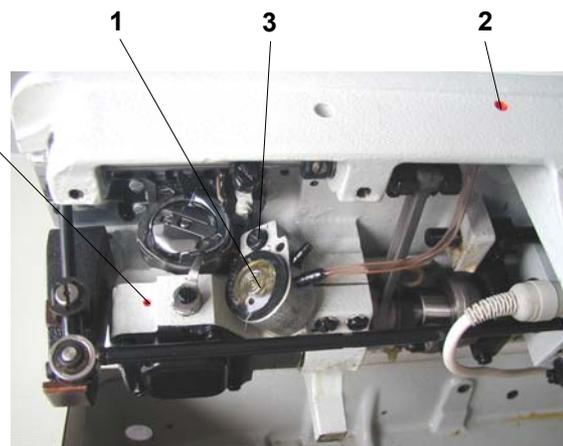

Fig. 13
From time to time, oil is to be dropped into the hole of the hook gearbox (Fig. 13). The quantity of the oil fed for lubricating the hook is regulated by turning a bit a regulation pin (3) using a screwdriver within the extent of 0 - MAX, that is to the left, in counterclockwise direction. The pin is placed on the front side of the oil vessel under the bedplate. When setting the indicator of the regulation pin on "0", the minimum oil feeding to the hook is ensured, so that its seizure is avoided. After having put the machine into operation, check and refill regularly the oil level in the oil vessel at the hook and in the oil vessel on the machine arm. It is necessary to refill ESSO BEACON EP2 grease in the shafts of the feeding mechanism (4, 5).